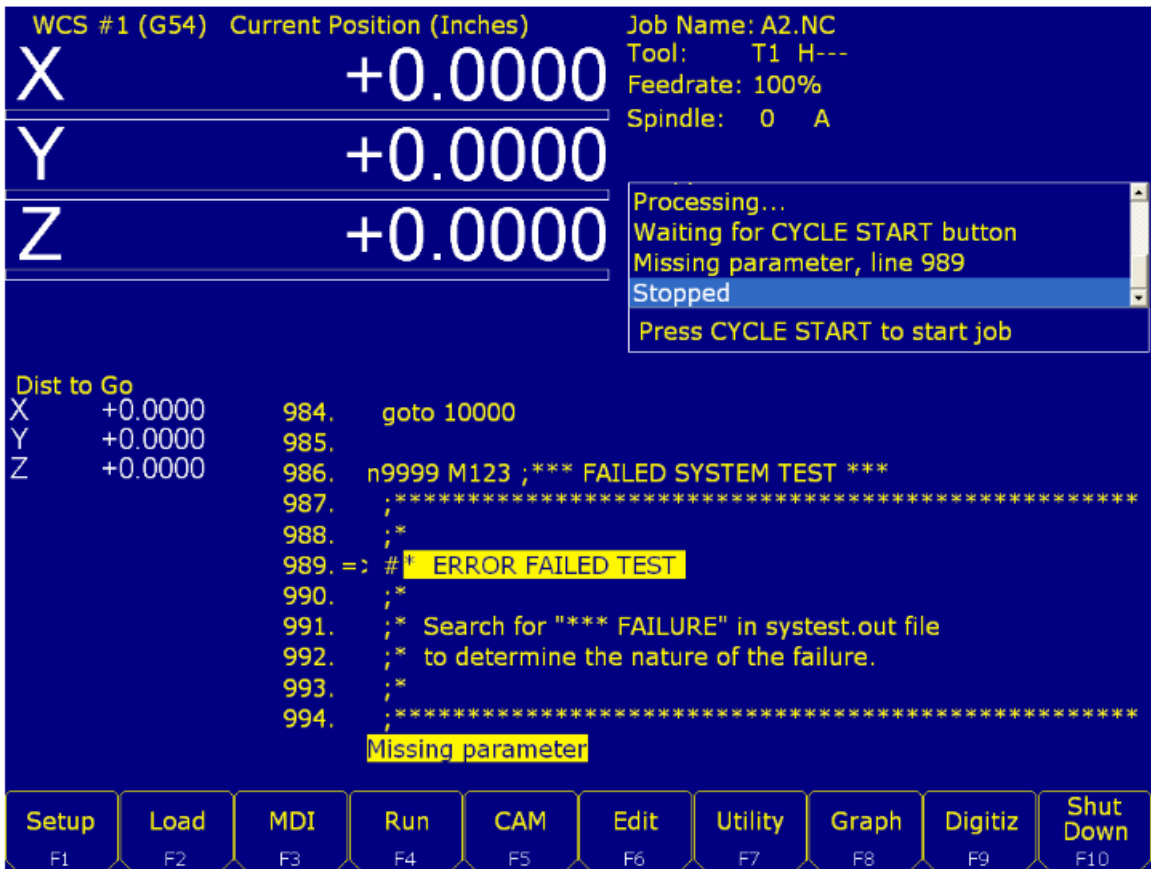
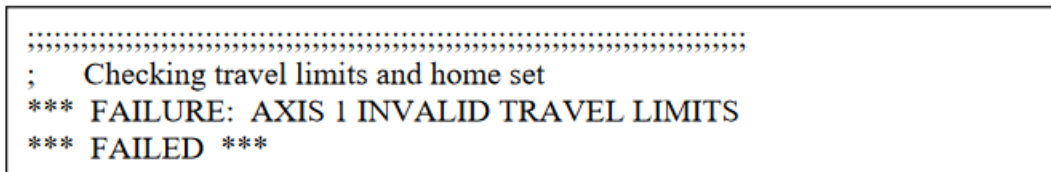

Figure 15.4
Figure 15.5
4. If the System Test fails at any time while testing, you will see “Missing parameter, line 989” on the Config Screen. To fix this, go back to the main screen, where you will see the following screen (see Figure 15.4). Load the `systemest.out` file located in the CNC software directory and press **F6 – Edit** to see exactly what failed (see Figure 15.5).